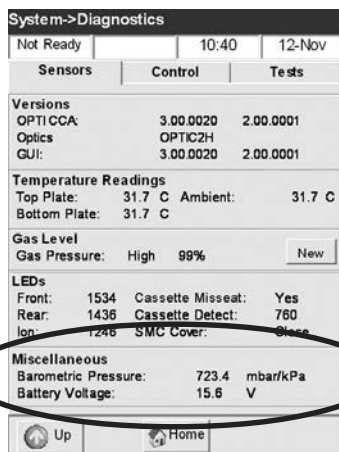

Fig. 7-6 Barometric Pressure
- The **<Miscellaneous>** section will show the current barometric pressure (Fig. 7-6).